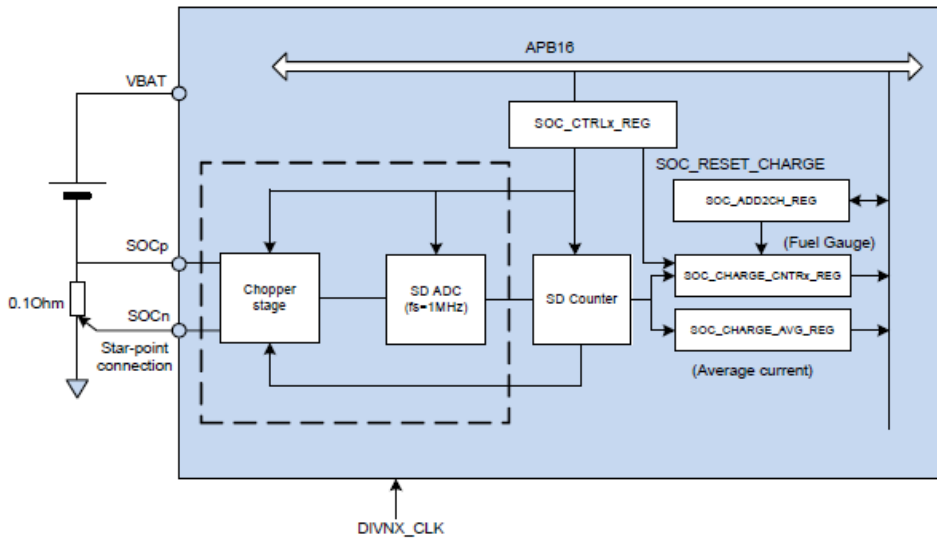

Figure 2: Fuel Gauge Circuit Block Diagram [1]
This is realized by the built in hardware fuel gauge (FG) circuit in the DA1468x. The block diagram of the circuit is shown in Figure 2. The main function of this block is to continuously integrate a voltage which is the result of a current flowing through a sensing resistor. The sensing resistor is recommended to have an accurate value of 0.1 Ω and is placed between the SOCP and SOCN pins. For more details of the circuit, please look in the DA1468x datasheet given in [1].